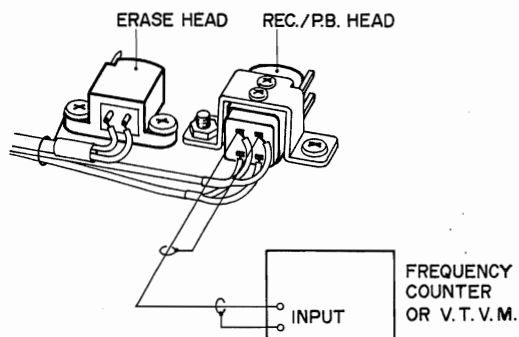

Fig. 28
5. RECORDING BIAS FREQUENCY MEASUREMENT (See Fig. 28)
Set recorder to Rec. mode. Connect a frequency counter between the coil terminals of the Rec./P.B. Head as shown in Fig. 28 and read indication.
Set recorder to Rec. mode. As shown in Fig. 28 connect a V.T.V.M. between the coil terminals of each head and read indication.